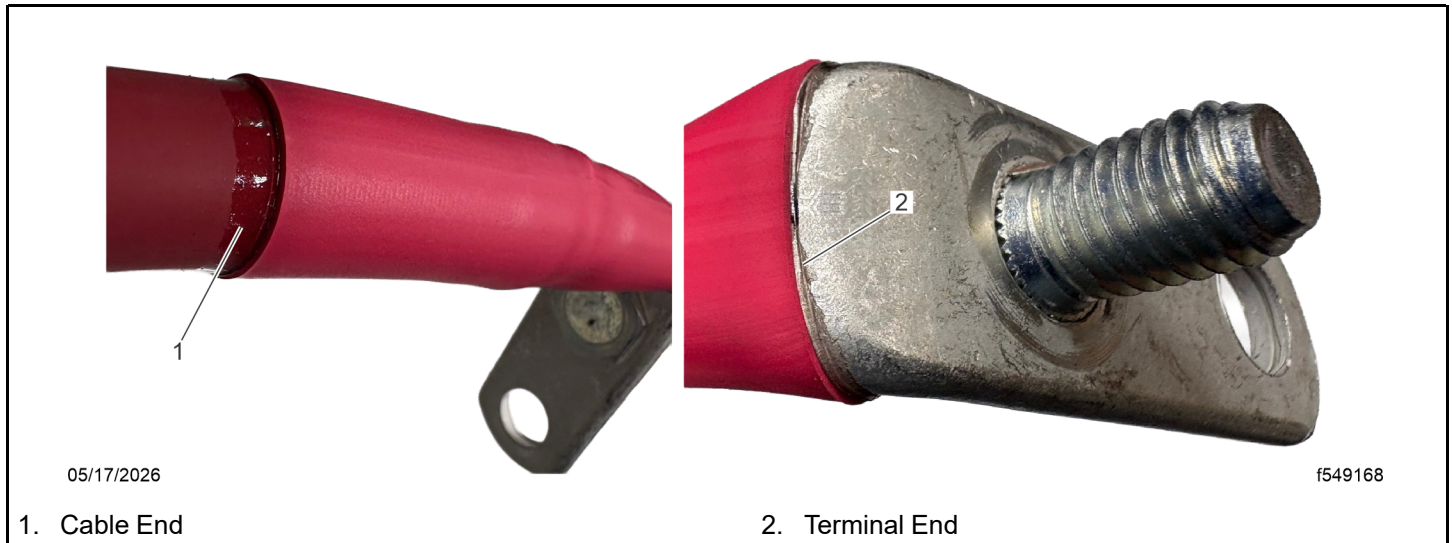

Fig 40, Continuous Adhesive Seal at Cable and Terminal Ends
- c. Confirm a continuous ring of adhesive can be seen around the circumference of the sleeve at both ends. See Fig. Fig. 40.